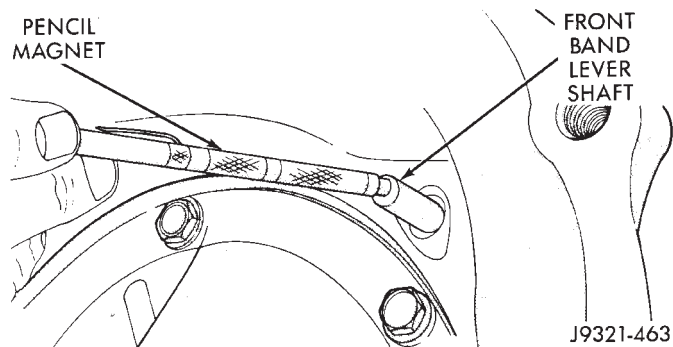

Fig. 16 Removing Front Band Lever Shaft
(25) Remove front band lever shaft with pencil magnet. Pin is accessible from converter housing side of case (Fig. 16).